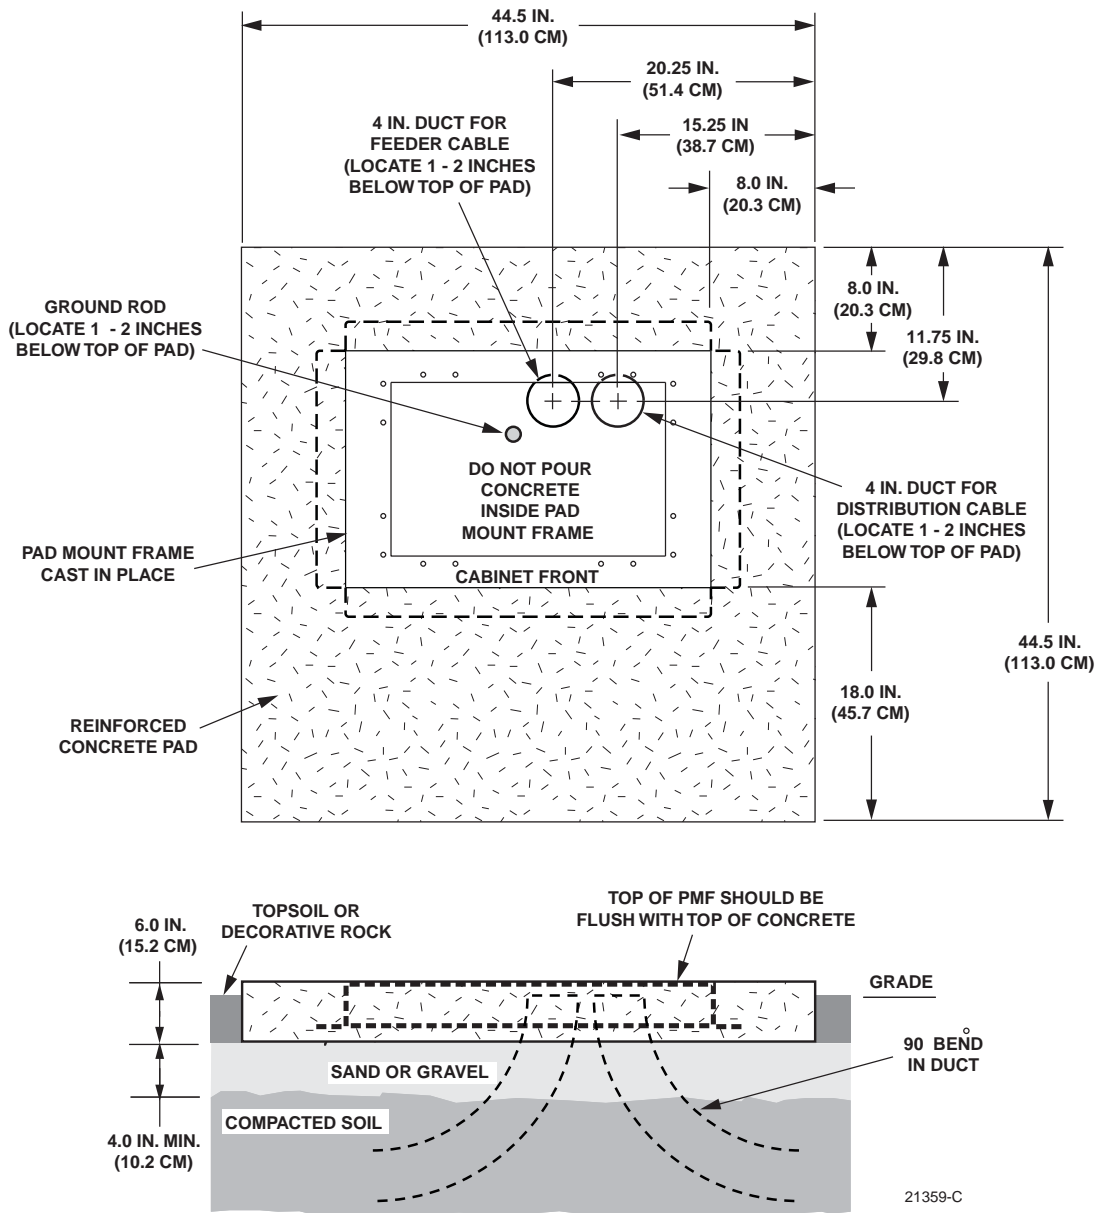

Figure 9. Constructing the Concrete Pad for the 432 Termination FDH 3000 Pedestal-Mount Cabinet
Prepare a base for the concrete pad that meets all local code requirements. The base must have a footing of 4 to 6 inches (10.2 to 15.2 cm) of sand or gravel (per local practice) on firmly compacted soil. Refer to the construction diagram in Figure 9 for details.
2. Locate the PMF as shown in the construction diagram (see Figure 9). When installed, the top surface of the PMF must be flush and level with the top of the concrete pad.
Install a grounding system (not provided) that meets all local electrical codes. Check local codes for grounding system installation, use of clamps, wire size, and any other grounding requirements. Typically, #6 AWG copper wire is used for the ground wire. If the grounding system includes a ground rod, install the rod (see Figure 9) within the PMF opening at the indicated point. When installed, the top of the rod should be located 1 to 2 inches (2.54 to 5.08 cm) **below** the top of the finished concrete pad. Leave sufficient slack in the grounding wire to allow it to be routed into the cabinet after the cabinet is mounted on the pad.